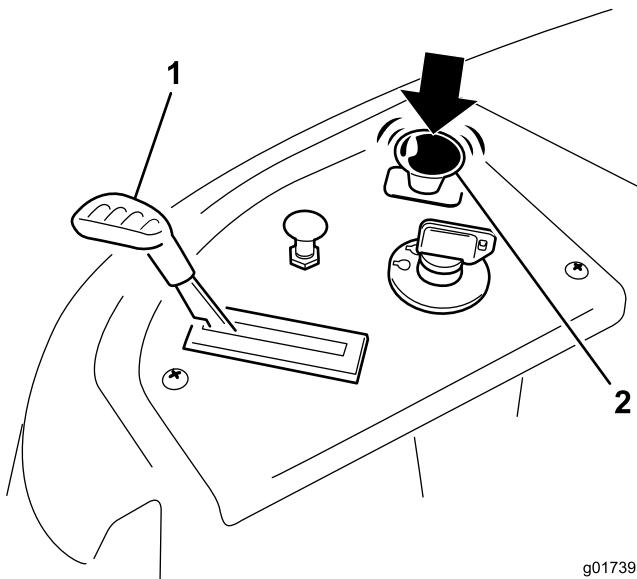

Figure 14
2. Disengage the blades by moving the blade control switch to Off (Figure 14)